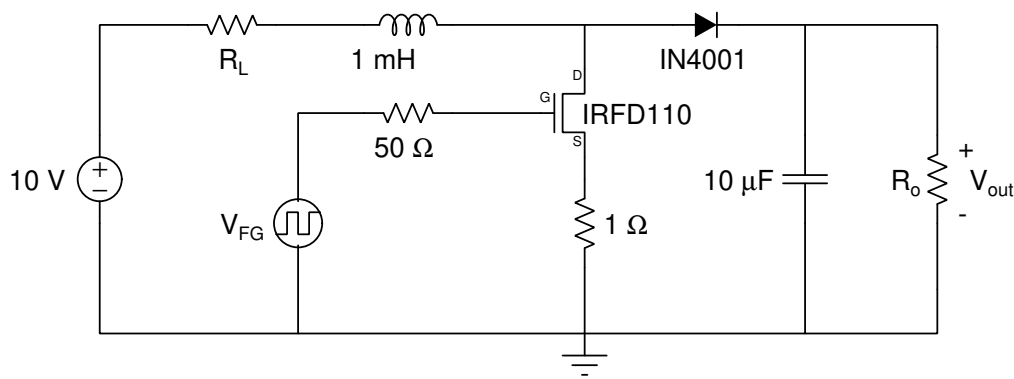

Figure 3: Boost converter circuit for NGSpice simulation and for implementation.
- (f) The period of the square wave (T) used to drive switch S_1 is $t_1 + t_2$; the frequency (f) is $1/T$ and the duty cycle (δ) is t_1/T . What are T , f , and δ for the FG?
2. Simulate the boost converter circuit shown in Figure 3. Include the ESR of the inductor. Also include a $1\ \Omega$ resistor between the S terminal of the transistor and ground to allow for the simulation of the current through the transistor.
1. Build and test the boost converter circuit shown in Figure 3 using the component values and FG settings determined in step 2i of the Pre-Lab. Check the signal on the scope to make sure it is correct before applying it to the circuit.